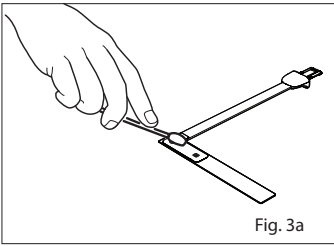

Fig. 3a
2. Refer to Fig. 3a. For fragile skin, the stickiness of the medical grade adhesive can be diminished or eliminated by daubing the adhesive areas with a cotton ball or gauze.